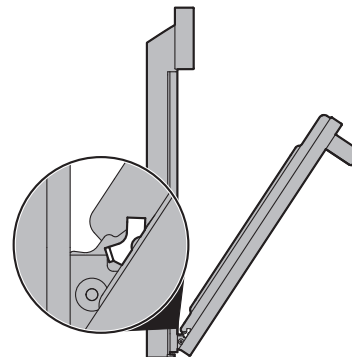

Figure 11: Removal position
3. Grasp the door by the sides, and close the door until the door frame makes contact with the unlocked hinges (Figure 11).
2. Hold the oven door at the same angle as the removal position (Figure 11). Carefully insert the hinge levers into the oven frame until you feel the hinge levers are seated into the hinge notches. The hinge arms must be fully seated into the hinge notches before the oven door can be fully opened.